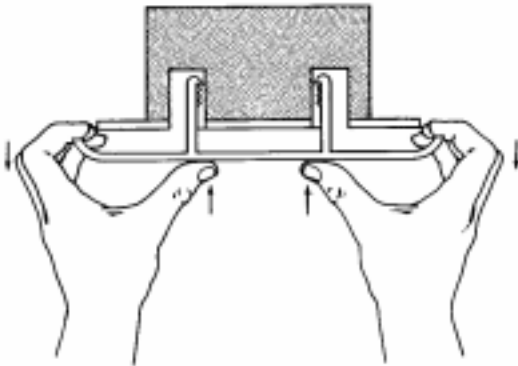

Figure 1. 102 Flush-Mount Grille Removal
1.2 As you press inward with your thumbs, pull outward with your fingers. This will release the teeth from the grooves, allowing the grille to be removed from the loudspeaker enclosure. **(See Figure 1)**